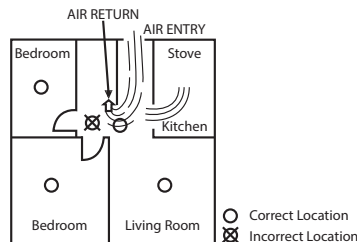

Figure 6:
- When air streams passing by kitchens, the way how a detector can sense combustion particles in normal air-flow paths is graphically shown in Figure 6, which indicates the correct and incorrect smoke detector locations concerning this problem